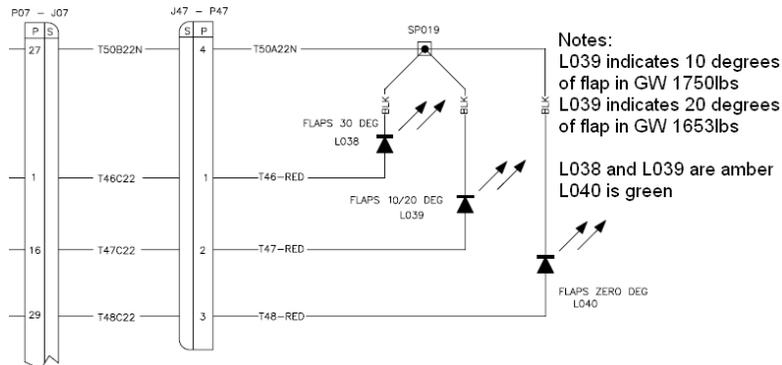

Figure 31-16 Partial Schematic of the Flap Indicator Circuit
6. Insert the connector pin into the correct location on P47. Refer to Figure 31-16 for the correct pin location.